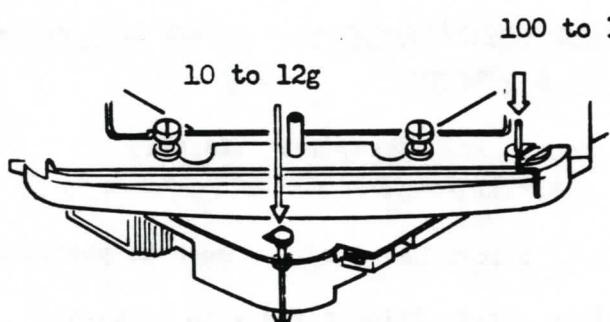

Fig .96
- (2) Signal pin shall move half-way by weight of 10 to 12g, and turn back slightly (Fig. 96)
- (3) Release lock bar (aRS1261) shall move half-way by weight of 100 to 150g, and turn back smoothly. (Fig. 96)